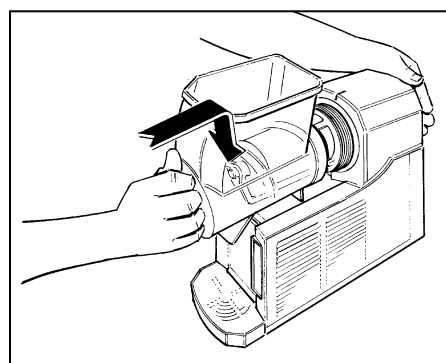

Fig. 16
- **R**eassemble the bowl by positioning it back into its seat until it gets blocked into it (see fig.16).